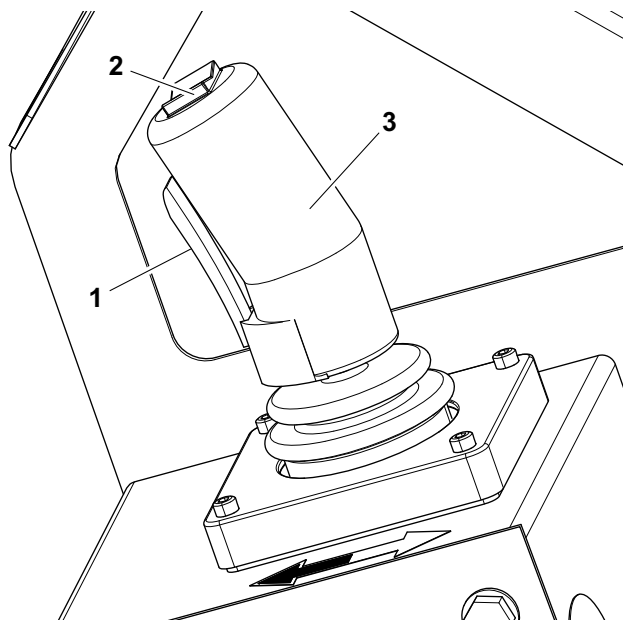

Figure 3-11. Platform Control Components
(Item 2 - Figure 3-11.)
(Item 1 and 3 - Figure 3-11.)
4. Squeeze and hold the trigger switch, and move the joystick back (platform up - white arrow direction) or move the joystick forward (platform down - black arrow direction) and hold until desired elevation is reached. Releasing the trigger switch or moving the joystick back to it's center position will stop the function being operated. *(Item 1 and 3 - Figure 3-11.)*